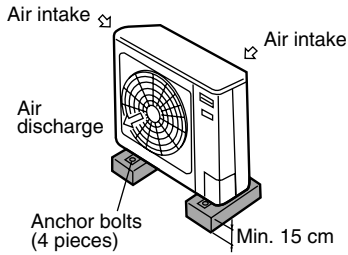

Fig. 2-7
- Provide a solid base (concrete block, 10 × 40 cm beams or equal), a minimum of 15 cm above ground level to reduce humidity and protect the unit against possible water damage and decreased service life. (Fig. 2-7)